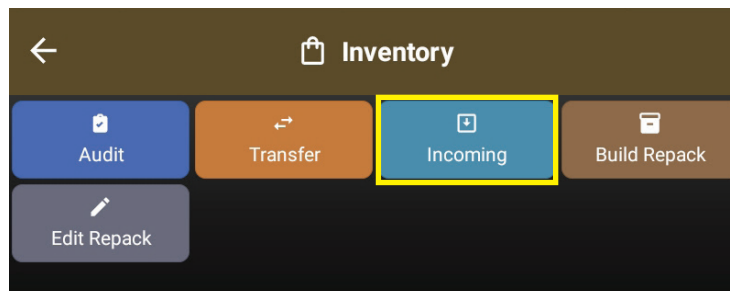

Figure 70
1. Select More >Inventory > Incoming (Figure 70)